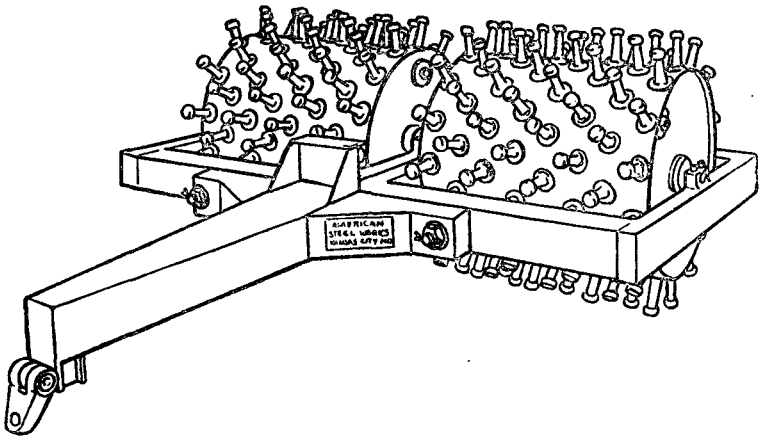

Figure 2. Double drum assembly.
*c. Frame.* The box member frames that surround and control the movement of the roller are made up with bearing blocks to position the shaft, connecting devices to position the towing tongue, and cable loops to aid in equalizing the towing pull during multiple roller operation. Holes are also placed in the frame members for bolting cleaning teeth to the rear member. Connection devices are provided for operating two or three rollers in line (figs. 2 and 3), using one towing tongue.